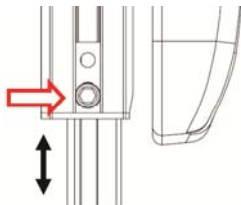

Figure 5-45
5.3.3.5.1 When adjusting the footplate upwards or downwards for the needs of the user, use the #6 Allen Key Wrench to loosen the bolt. (Figure 5-45) After adjusting the footplate, re-tighten the bolt.